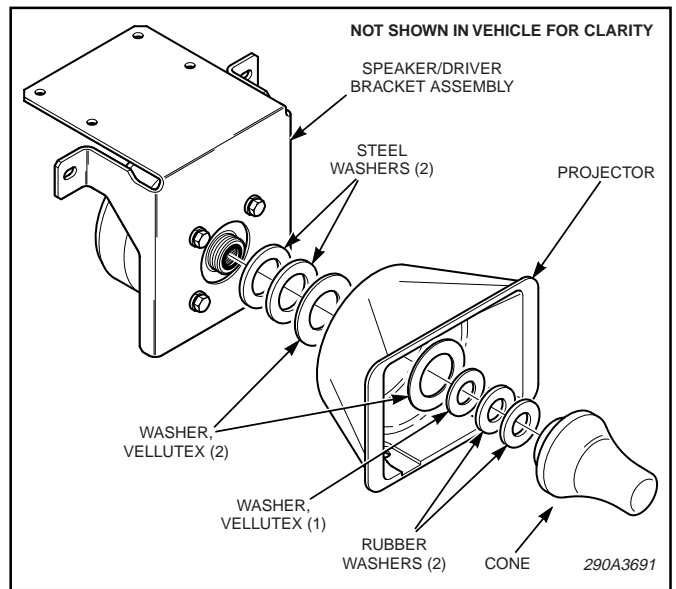

Figure 4.
9. See figure 4. Install two steel washers and one vellutex washer on the speaker driver. Insert the TS100 projector through the grill opening and position it on the speaker driver/bracket. Install the vellutex and rubber washers on the driver/projector as shown in figure 4. Insert the cone through the grill opening and install the cone by turning it clockwise until snug.